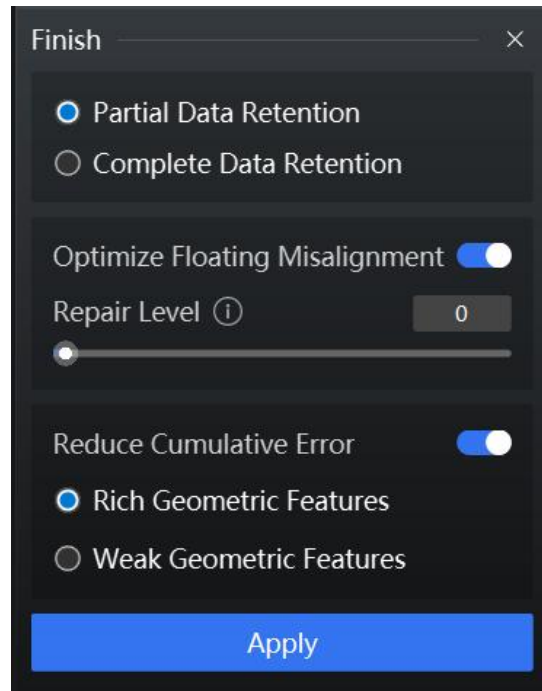

Figure 8-2 Point Cloud Processing Option
2. Once scanning is complete, click . Point cloud processing options are located beneath this button, as shown in Figure 8-2.